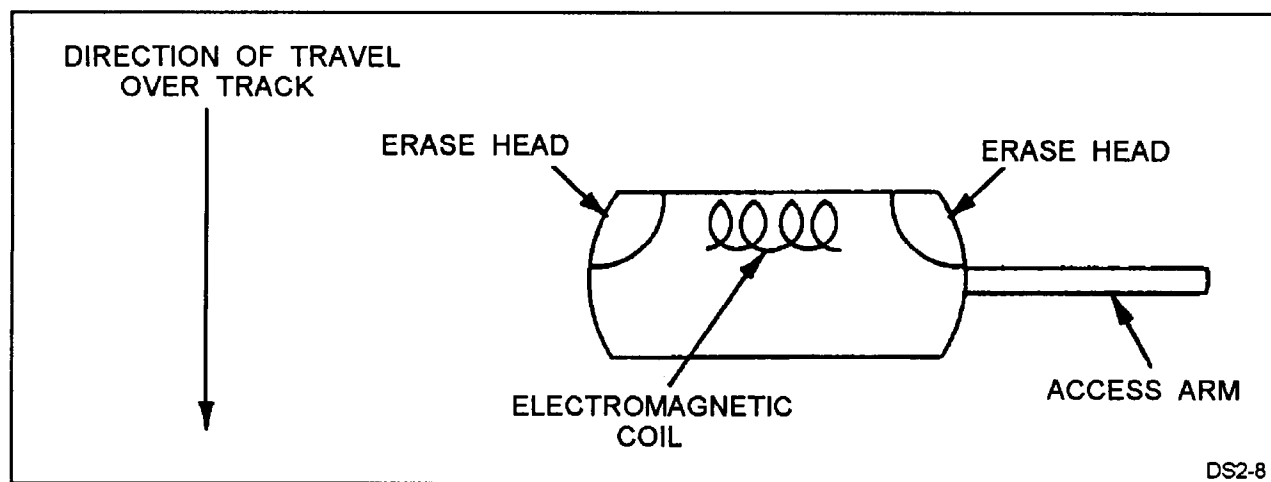

Figure 10-8.—Construction of a floppy disk drive read/write head.
**HEAD CONSTRUCTION.** — Heads are made of a soft ferrous material with electromagnetic coils for reading and writing. The read head picks up changes in magnetic flux as the disk moves past the head surface. An electric current fed through the write head creates a magnetic field around it. If the force of the magnetic field is strong enough, the area on the disk is also magnetized. By controlling the direction of current flow through the head, we can also control the direction of the magnetic field. The write (record) head is centered between two erase heads. Figure 10-8 illustrates the construction of a floppy disk drive read/write head.